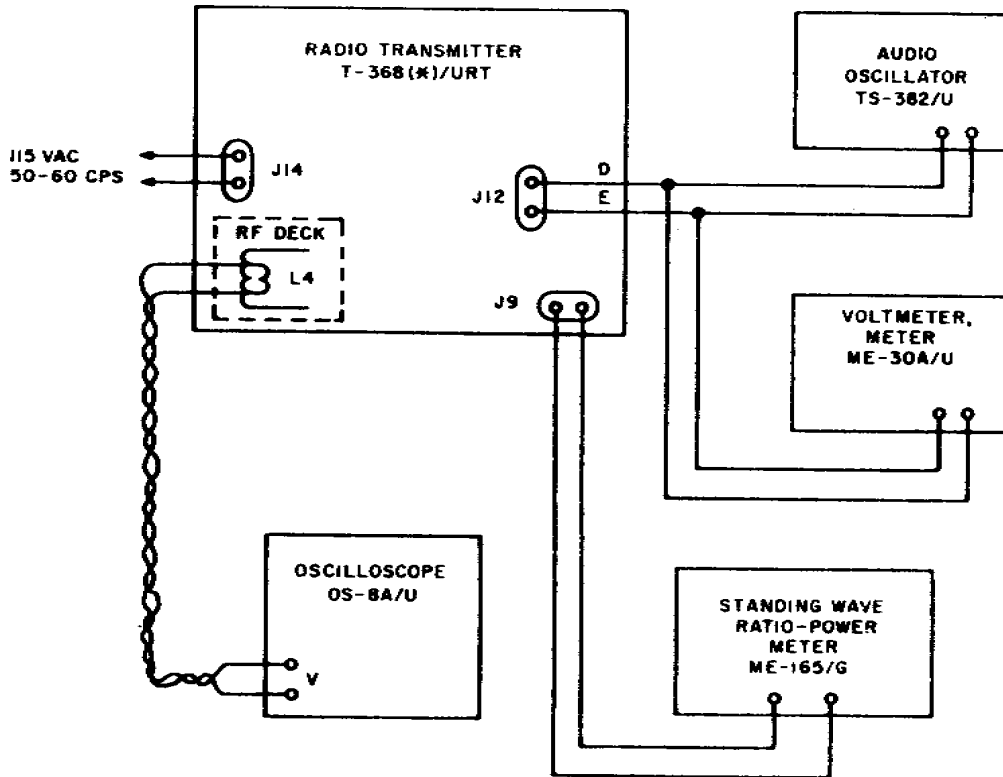

Figure 105. Output power test setup.
Connect the equipment as shown in figure 105.
*a.* Refer to figure 105 for TS-382/U and OS-8A/U connections. Adjust the TS-382/U for a frequency of 1,000 cycles.
- (1) Set the audio input level to J12 on T-368(\*)/URT, from the TS-382/U at -34 dbm. The ME-30A/U will be used to measure the dbm.
- (2) Turn the CARBON MIKE GAIN control R16 fully counterclockwise.
- (3) Vary the 600 OHM LINE GAIN control R17 an indication of 100 percent modulation is obtained on the OS-8A/U.
- (4) Set the audio input level from the TS-382/U at +6 dbm as recorded on the ME-30A/U, and repeat the procedures given in *a*(2) and (3) above. The OS-8A/U will indicate 100 percent modulation.